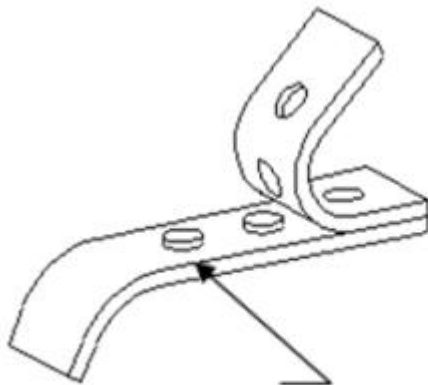

Figure A8: Weld Button
3. The weld size may be measured by either using the weld button (Figure A8) or the weld nugget (Figure A9). A resistance spot weld is unacceptable when the measured weld size at the faying surface (Figure A11) is less than the acceptable minimum nugget weld size of 4.0mm.